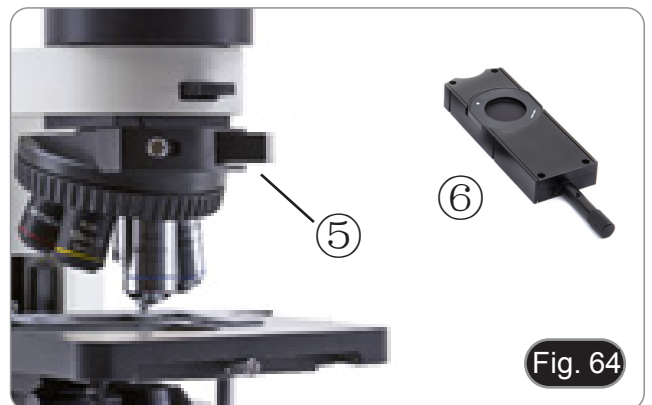

Fig. 64
5. Once the maximum darkening is achieved, remove the slider from the nosepiece, remove the analyzer from the dummy slider and insert it into the DIC prism. Now insert the DIC slider (6) into the slot (5). (Fig. 64)